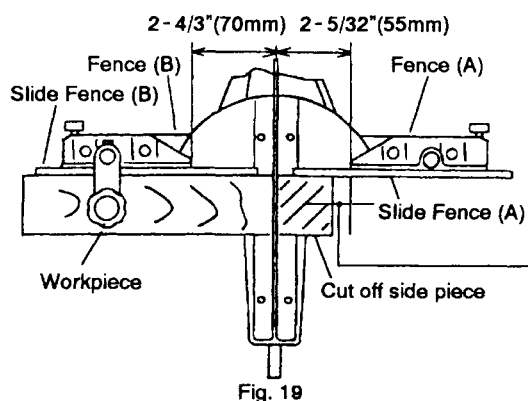

Fig. 19
Slide fence (A) and slide fence (B) are meant to stabilize small workpieces (see Fig. 19).